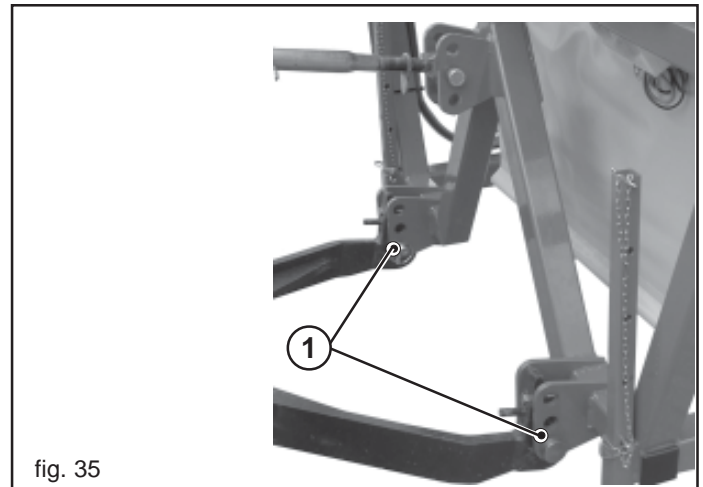

fig. 35
- 1) Hook the lifter bars onto the pins provided (1, Fig. 35) Block with the snap split pins. Hook the chains to the lifting bars